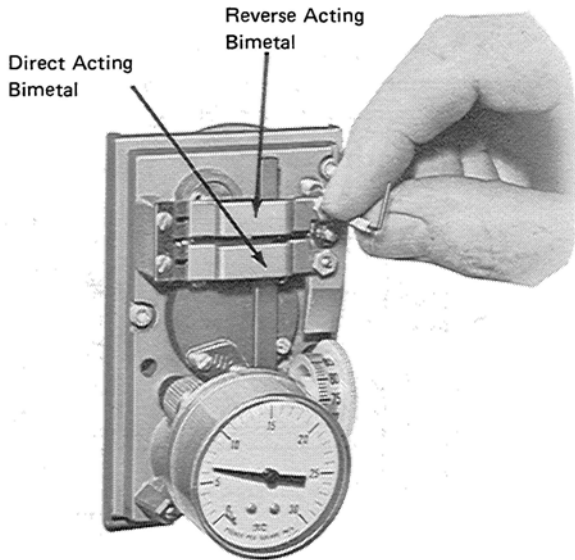

Figure-9
5. With a 0.48-inch six spline wrench, turn the calibration screw (Figure-9) clockwise if the controlled pressure is above 8 psig and counterclockwise if it below 8 psig. Adjust the screw until the controlled pressure is 8 ± 1 psi.